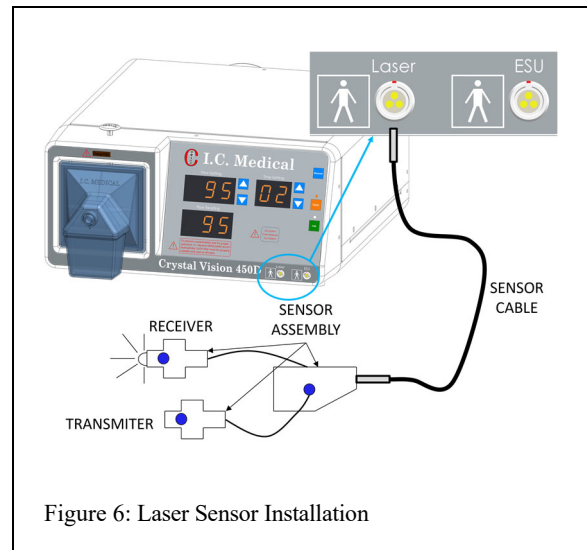

Figure 6: Laser Sensor Installation
1. Attach the Sensor Cable (Figure 6) to the LASER connector on the CRYSTAL VISION® and to the Sensor Connector Box.